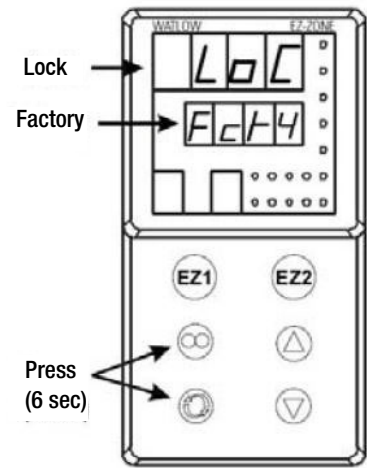

Figure 13-1 Displays
2. Press the Up Arrow until “LoC” (lock) appears in the upper display. The word “Fcty” will remain in the lower display (Figure 13-1).